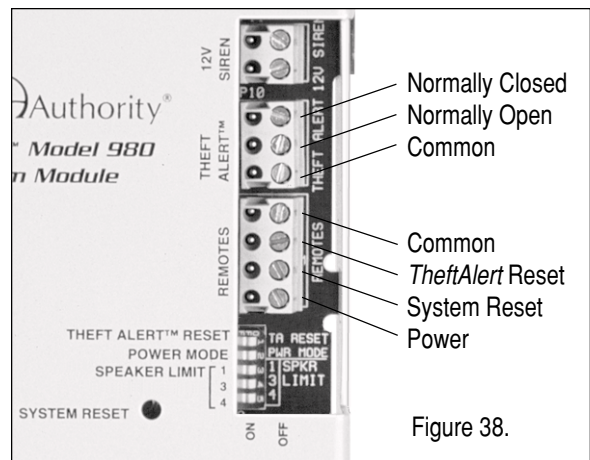

Figure 38.
- Connect a 12 volt DC siren or other device, drawing less than 1 amp, to the (+) and (-) “12V Siren” terminal block on the Model 980 (see Figure 38).
- Connect a SPST switch between the "Reset" and "COM" pins on the "Remotes" terminal block located on the 980 (see Figure 38).